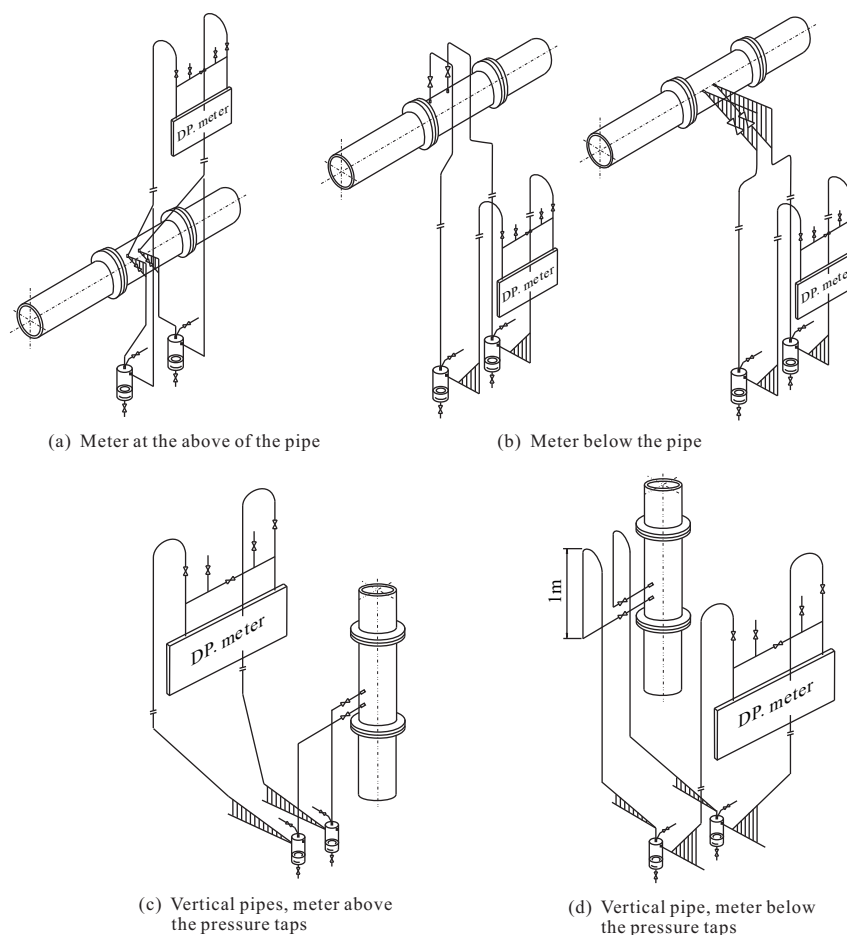

Figure 6.2.3 The signal line installation diagram of measuring clean wet gas flow
When the measured fluid is clean wet gases, the method of installation of the signal pipeline is shown in Figure 6.2.3.
- (1) Differential pressure transmitter is preferably installed above the orifice flowmeter, and install the settler (or drain valve) at the lowest position of the guide pressure tube, as shown in Figure 6.2.3 (a).
- (2) If the differential pressure transmitter has to be installed under the orifice flowmeter, then the settler (or drain valve) should be installed at the lowest position of the guide pressure tube, as shown in Figure 6.2.3 (b).
- (3) If orifice flowmeter was installed on vertical pipe, differential pressure transmitter is located above the pressure taps, then the settler (or drain valve) should be installed at the lowest position of the guide pressure tube, the tubing and installation could be carry out in accordance with figure 6.2.3 (c).
- (4) If the orifice flowmeter was installed in vertical pipe, the differential pressure transmitter is located under the pressure taps, then the pressure guide tube should leads up 1 meter then bend downwards, as well as to install the settler (or drain valve) at the lowest position of pressure guide tube, the tubing and installation could be carry out in accordance with figure 6.2.3 (d).